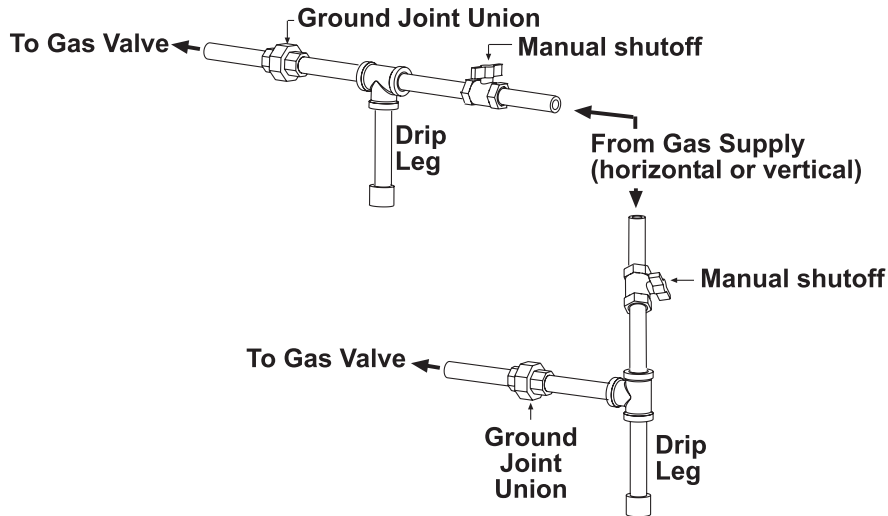

Figure 11. Supply Piping Connection
- Gas connections are shown in **Figure 11** and gas connections sizes are listed in **Table 12**.
- Install a ground joint union and manual shutoff valve upstream of the unit control system. The 1/8-inch plugged tapping in the shutoff valve provides connection for the supply line pressure test gauge. The *National Fuel Gas Code* requires the installation of a trap with a minimum 3-inch drip leg. Local codes may require a longer drip leg, typically 6-inch (see **Figure 11**).